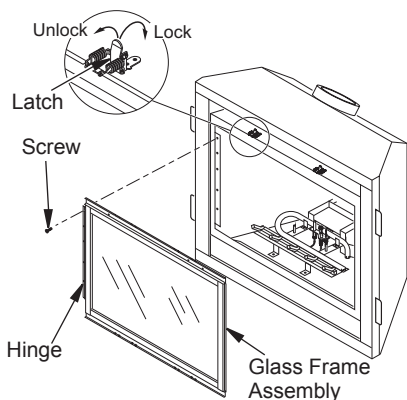

Figure 42 - Removing/Replacing Glass Door
2. Lift up on latches to unlock. There are two on top of firebox and two below firebox that hold glass door in place (see Figure 42).
3. While holding glass door to prevent it from falling and causing injury, remove the five screws from hinge located on left side of door frame assembly (see Figure 42).
5. Close glass door frame. Lock latches by placing bar under tab on door and pushing down and back on latch (see Figure 42).